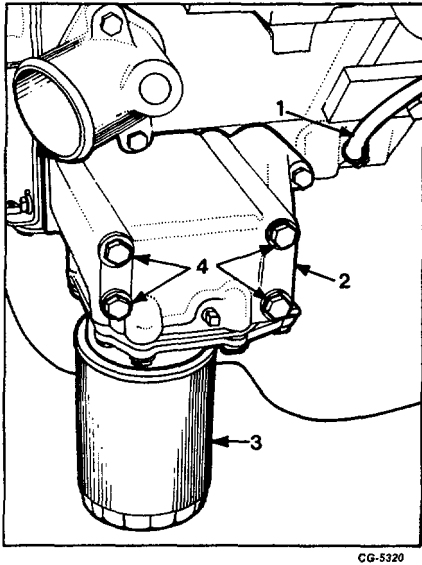

Fig. 27 Oil Cooler and Filter Removal
23. Remove bolts and flat washers securing oil filter and cooler (if so equipped) to the crankcase, Figure 27. Remove oil filter, cooler and gasket.
24. Remove oil feed line to air compressor, Figure 27.